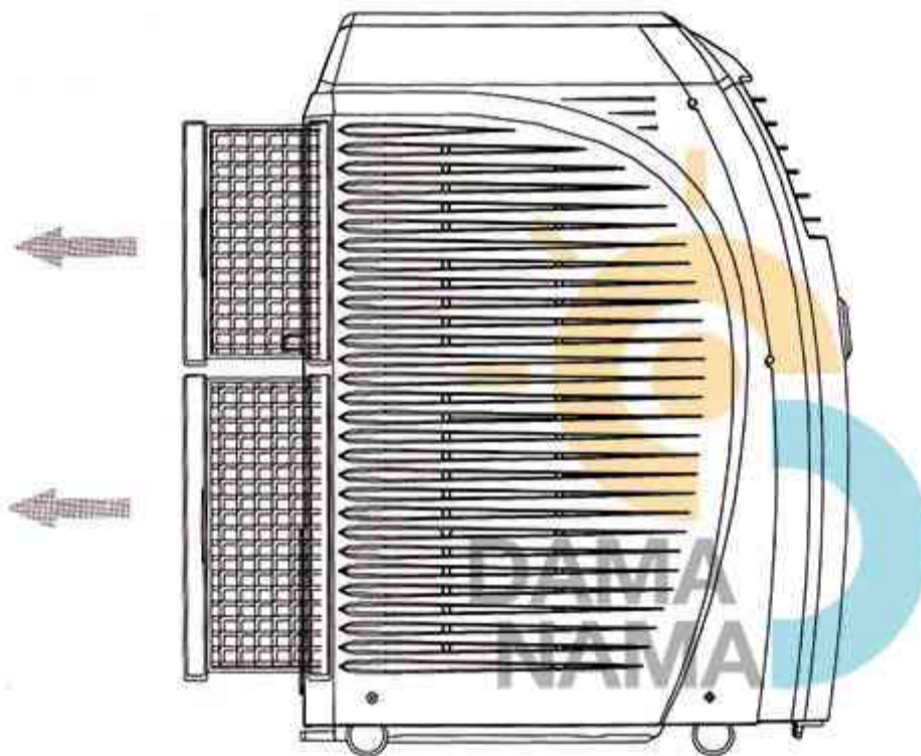

Fig.14
- Take out the air filter from the side as shown in Fig.14